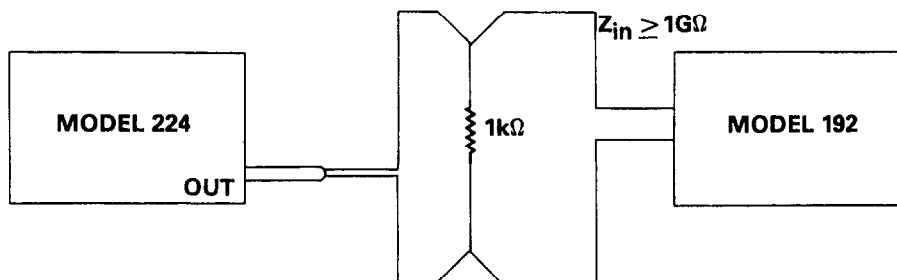

Figure 5-2. Calibration Configuration
4. Remove the short from the output of the Model 224. Connect the Model 224 and the Model 192 as shown in Figure 5-2.